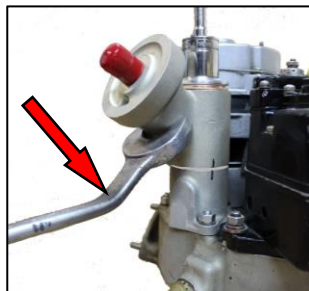
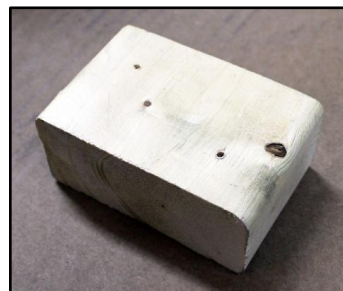

Figure 8
Figure 9
9. To prevent the sleeve from turning when the spool is tightened, fabricate a suitable wooden block to insert between the filter adapter and a point of resistance on the engine or airframe or, use a 1 ¼ inch open end wrench on the sleeve just below the filter mount flange as shown in Figure 8 to prevent the sleeve from rotating while tightening the filter adapter to its final torque. Because installations differ, the block you need may not look exactly like the exemplar block shown in Figures 9 & 10. However, if a block is used, it should fit snugly between the edge of the filter mount flange and an adjacent structurally sound part of the engine or airframe that can resist the forces encountered without being damaged when the spool is tightened. If a wrench is used, it may need to be bent to fit your installation.